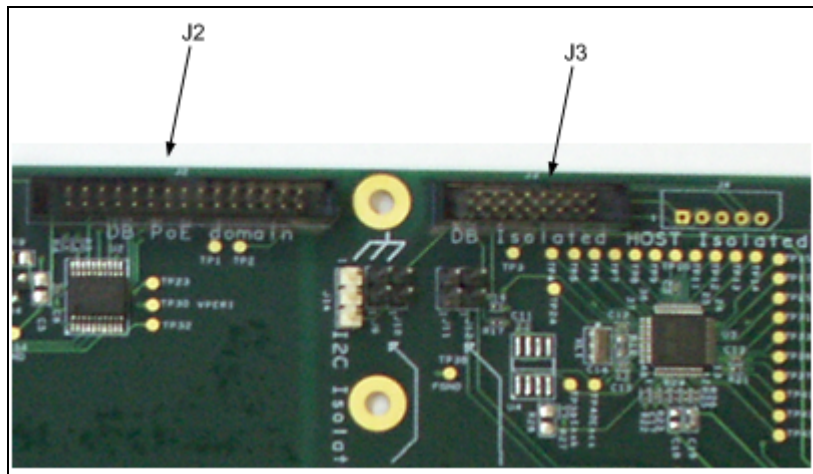

Figure 8: Communication and Indication Connectors
4. Communication and Indication (see Figure 8)